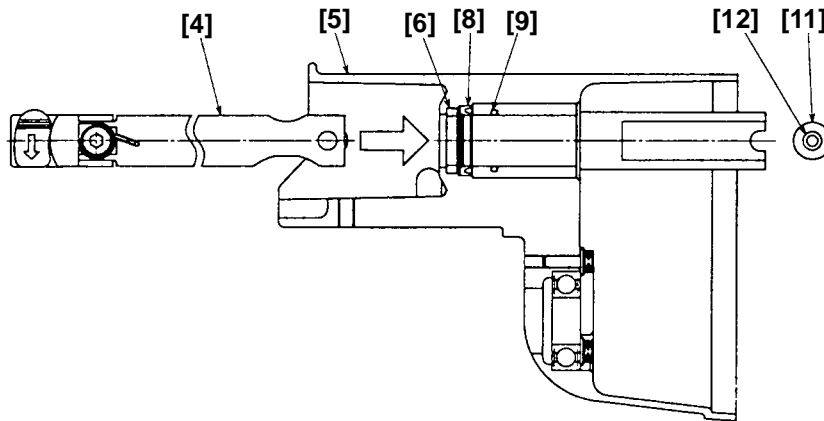

Fig. 17
(5) Mounting Plunger (B) [4] to Gear Cover (B) [5] (Fig. 17)